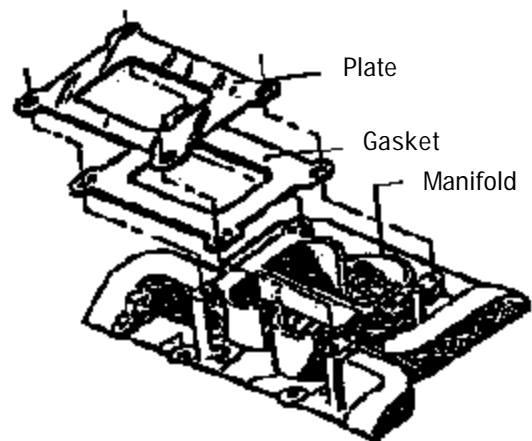

Figure 2 - Square-Bore Carburetor Adapter Plate
- **CARBURETOR PLATES AND GASKETS:** For square-bore carburetor installations on intake manifolds #2176 and 3776, you must install the supplied carburetor plate and gasket to seal the carburetor base (See *Figure 2*).